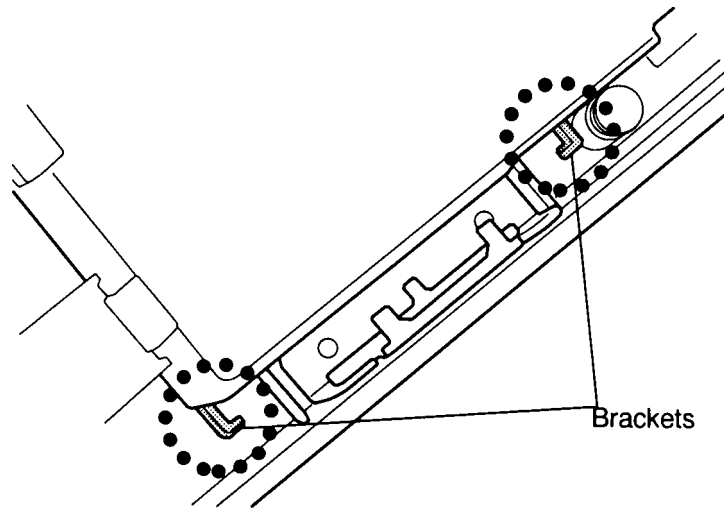

Figure 4-32 Power/reset board brackets
To install the T4850CT's base assembly and power/reset board, follow the steps below and refer to Figures 4-32 back through 4-28.
2. Seat the **power/reset board** inside its **brackets** on the bottom cover, then fold the **power/reset cable** down into the slot in front of the system board. Leave about 2 cm extending out of the slot (Figure 4-32).